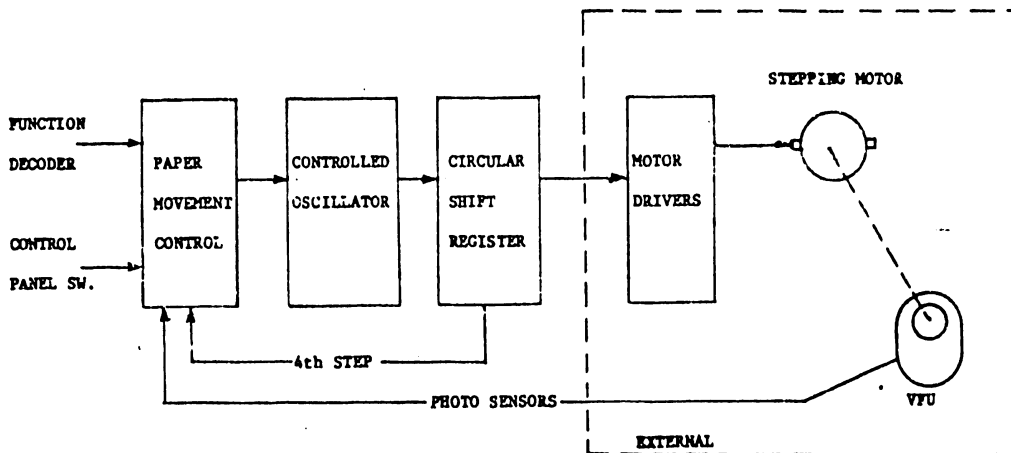

FIGURE 4-3
4.3.3 Paper Movement (Figure 4-3)